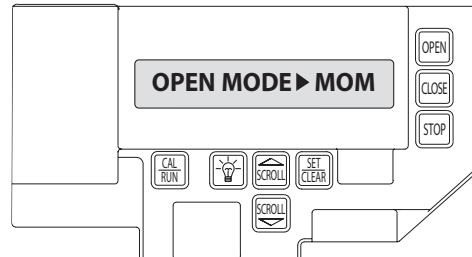

Figure 9
- 2) Press SCROLL  until display reads "OPEN MODE>MOM" "OPEN MODE>C-STOP." **Figure 9.**
- 2) Press SCROLL  until display reads "CLOSE MODE>MOM," "CLOSE MODE>C-STOP" or "CLOSE MODE>C-REV." **Figure 9.**